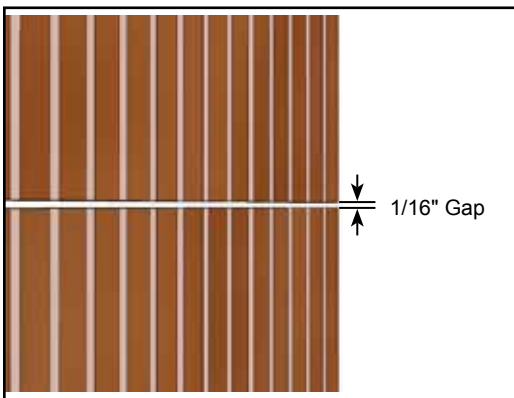

Figure 10
11. If planks are installed end to end, leave 1/16" between the planks at the butt joint. (Figure 10)